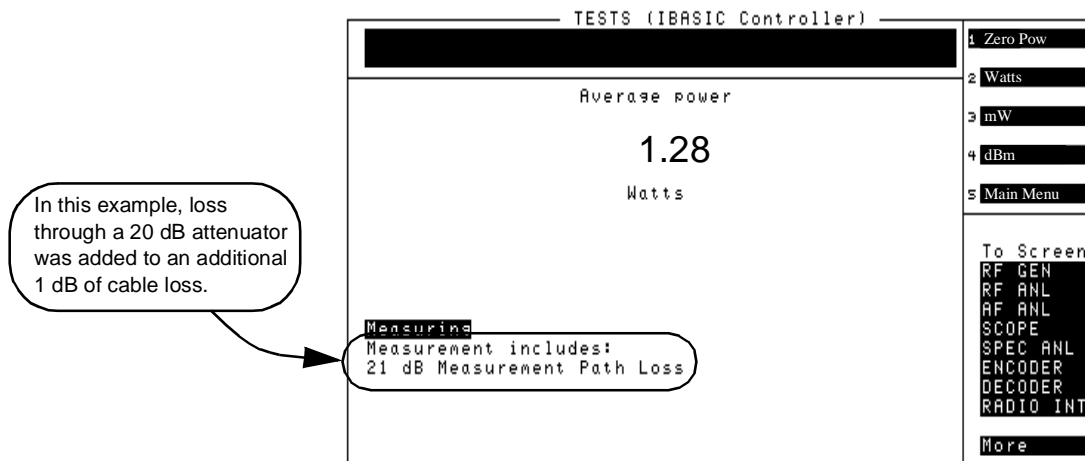

Figure 7
- 5 The resulting screen (see figure 7) will display average power (in Watts). The average power displayed is corrected for the loss value entered in the **Configuration Information Menu** under **TX Measurement Path Loss**.